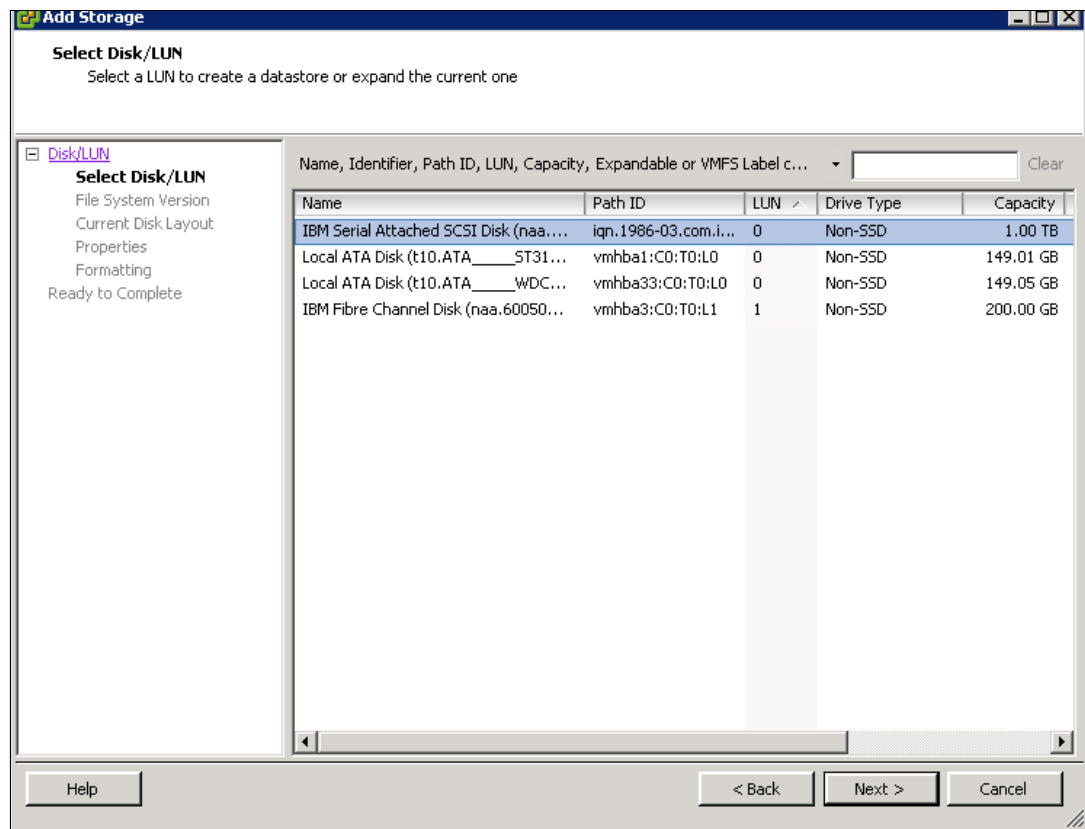

Figure 5-86 Select iSCSI LUN
8. The new iSCSI LUN is shown. Highlight it and click **Next**, as shown in Figure 5-86.